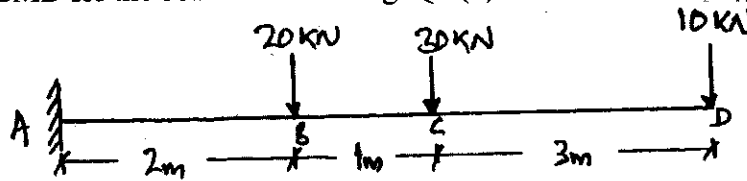

Fig. Q6 (b)
b. Draw SFD and BMD for the beam shown in Fig. Q6 (b). (14 Marks)